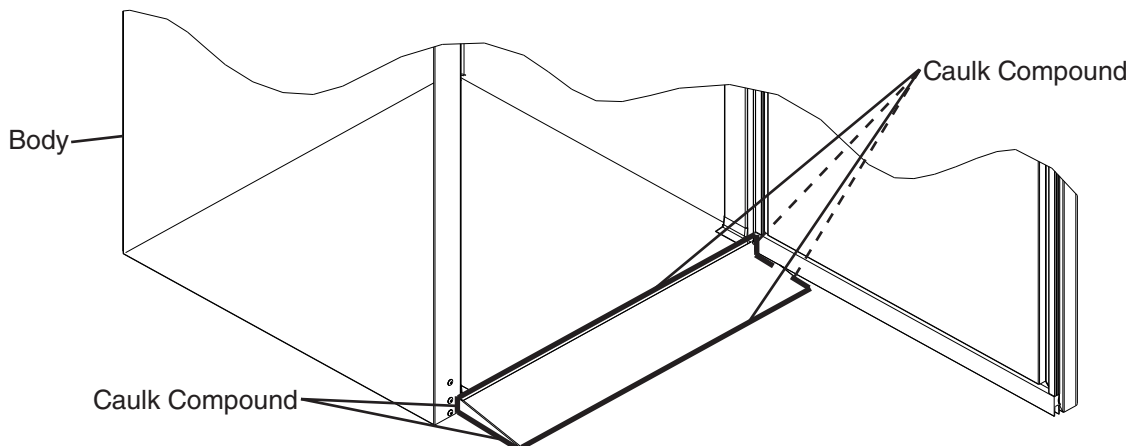

Fig. 6
- 3) Seal around the ramp as shown in Fig. 6 with an approved caulk compound.